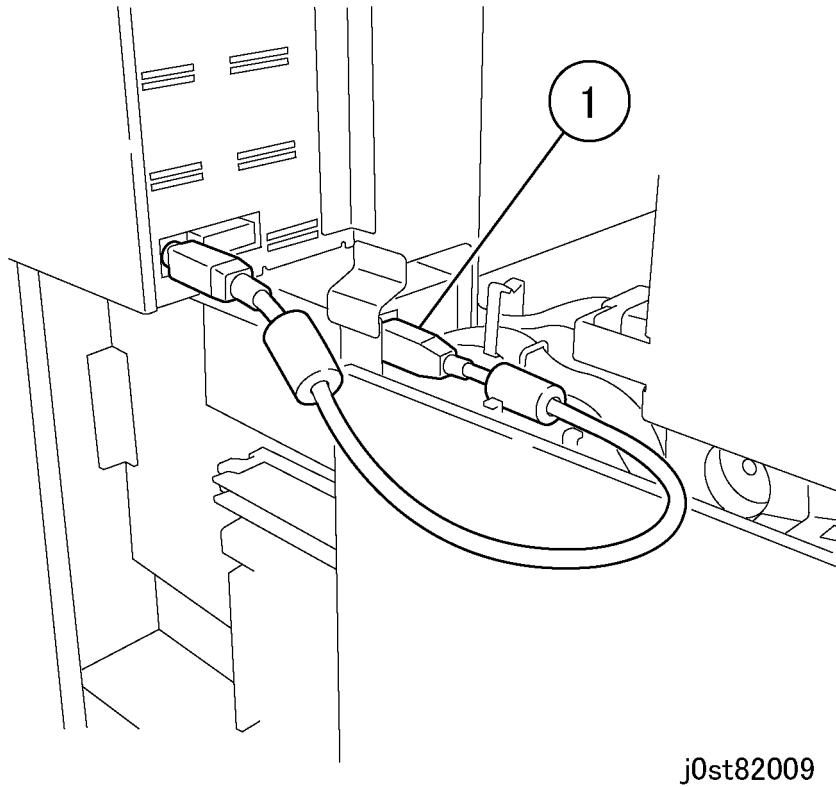

Figure 11 Connecting the Data Cable (j0st82009)
10. Connect the Data Cable. (Figure 11)